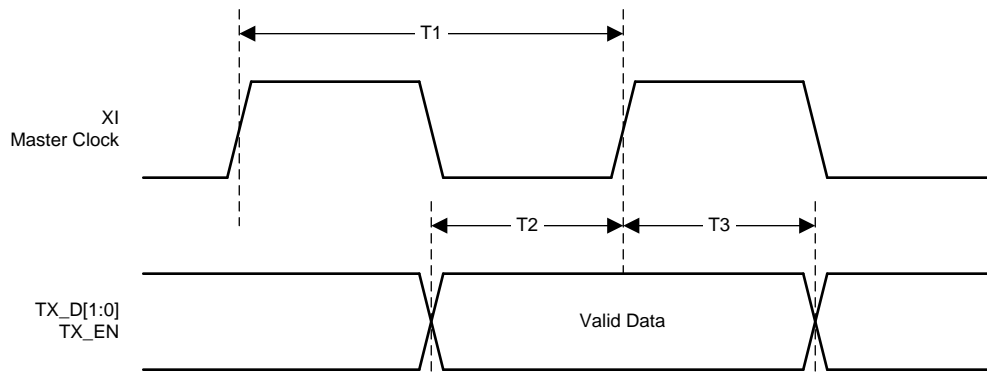

Figure 8. RMIIT Transmit Timing
(1) Ensured by production test, characterization or design.
(2) See Figure 8.